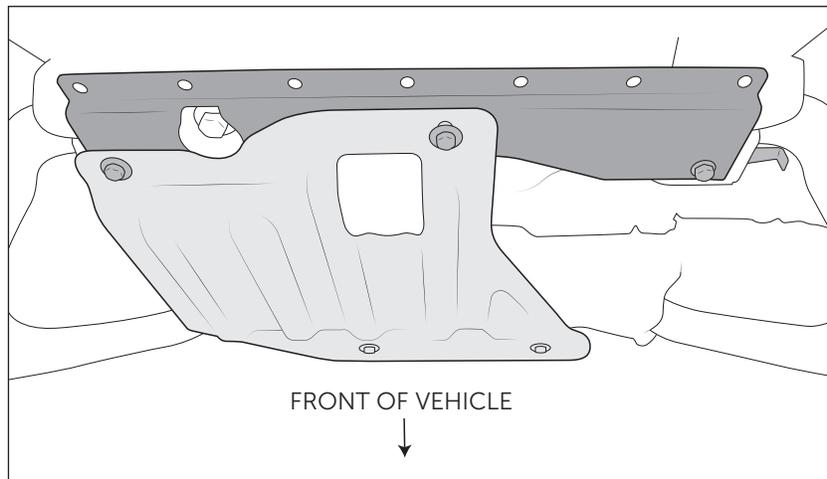

Figure 3
3. Slide Bracket under the oil pan skid (fig. 3).